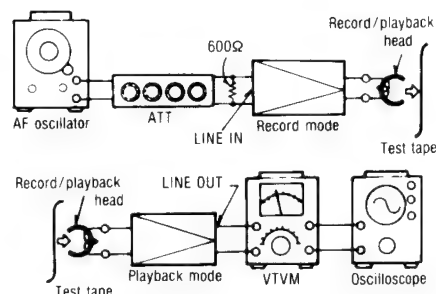

Fig. 16
1. Test equipment connection is shown in fig. 16.
8. Repeat from step (2).
10. Repeat from step (2).